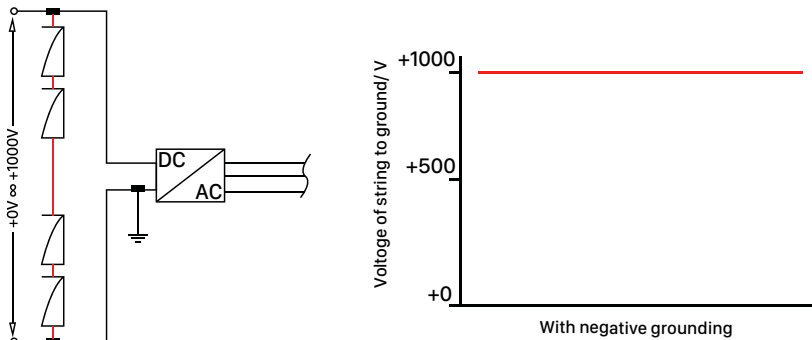

Figure 16. Schematic diagram for grounding potential of the inverter
- If the modules are used in high-temperature and high-humidity environment, IREX requires the customer to ground the negative end of the inverter (as shown in Fig.16). Offset Box or PID Box can also be used instead to apply a positive voltage to the module arrays at night to avoid PID